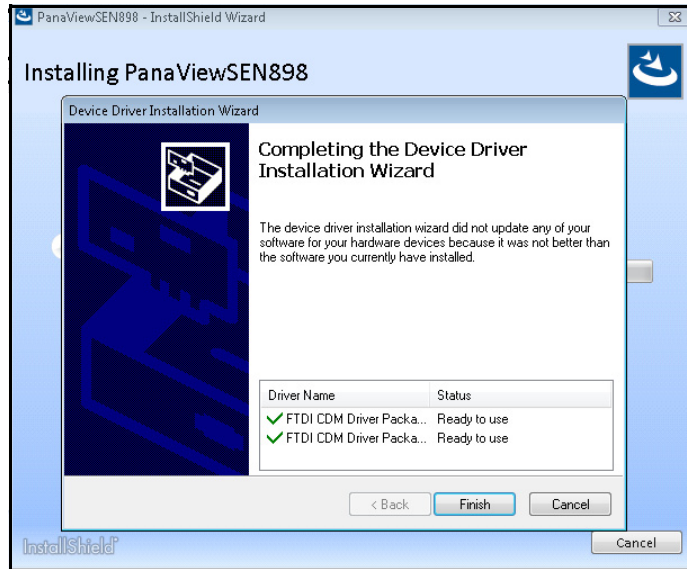

Figure 8: Successful Device Driver Installation Screen
- After Successful installation of FTDI CDM drivers, the dialog box shown in Figure 8 below opens. Click [Finish] to continue with PanaView installation.